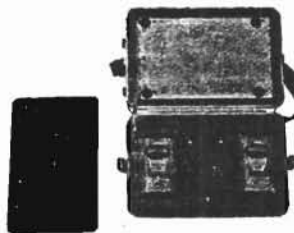

Figure 5-1. Dynatal 735 Battery Compartment
5.09 For access to the batteries, open the two fasteners that secure the bottom section of the 735 enclosure. Remove the cover of the plastic battery tray. See Fig. 5-1. Disconnect and remove the old batteries.